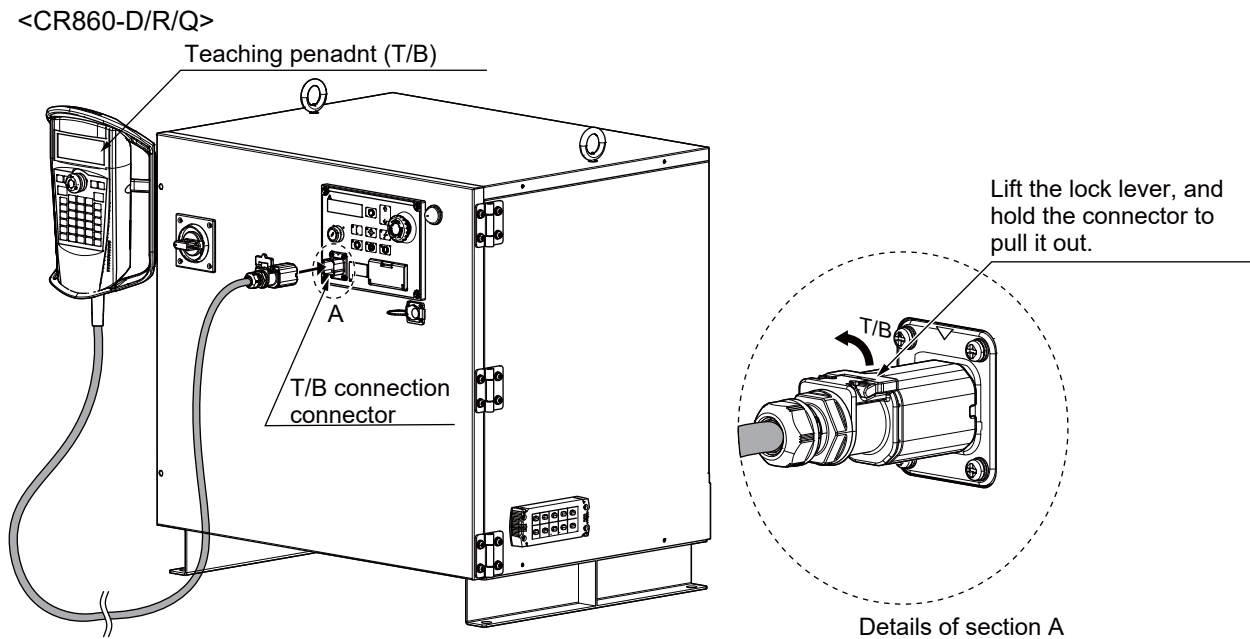

Fig.2-2:Installing and removing the T/B
- 2) Refer to Fig. 2-2, connects T/B connector to the robot controller. Use as the upper surface the lock lever, and push in until there is sound.
- 2) Refer to Fig. 2-2, raise up the lock lever in the connector upper part, and pull up the connector. Please install the dummy connector, if you use the robot, without connecting T/B.
- 2) Pull out the T/B connector within five seconds while 1). Refer to Fig. 2-2, raise up the lock lever in the connector upper part, and pull up the connector.